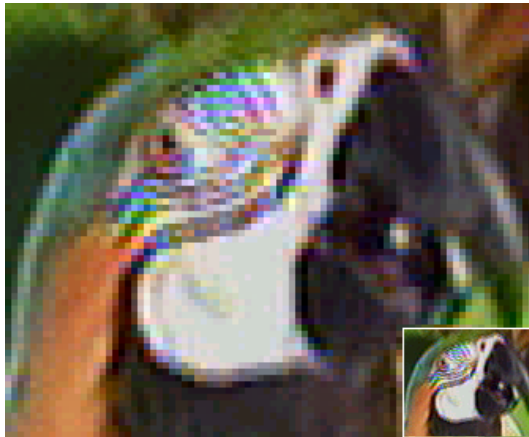

Figure A-1. Traditional Decoding
- Cross-color modulation where rapidly changing colors affect the luminance of the image, as shown on the edges of the parrot's head in Figure A-1
- Cross-luminance modulation where rapidly changing luminance (stripes) results in irritating random color patterns., as shown on the black and white stripes around the parrot's eye in Figure A-1